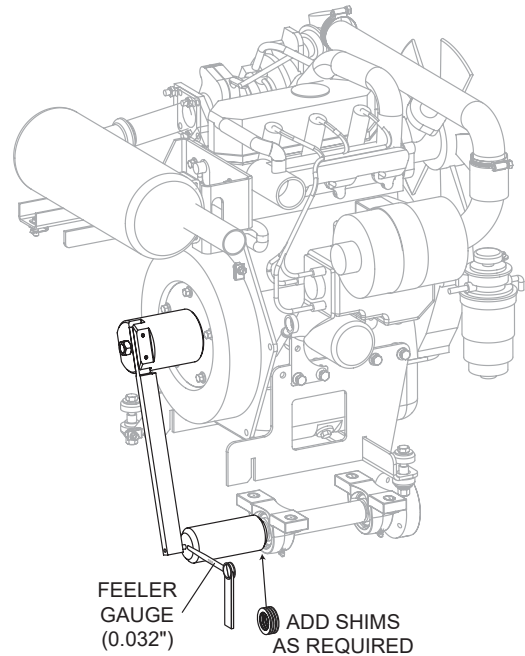

Figure 11. Shimming
5. Reinstall gauge sleeve onto cross shaft. Insert 0.032" feeler gauge (Figure 11) between gauge pin and gauge sleeve.